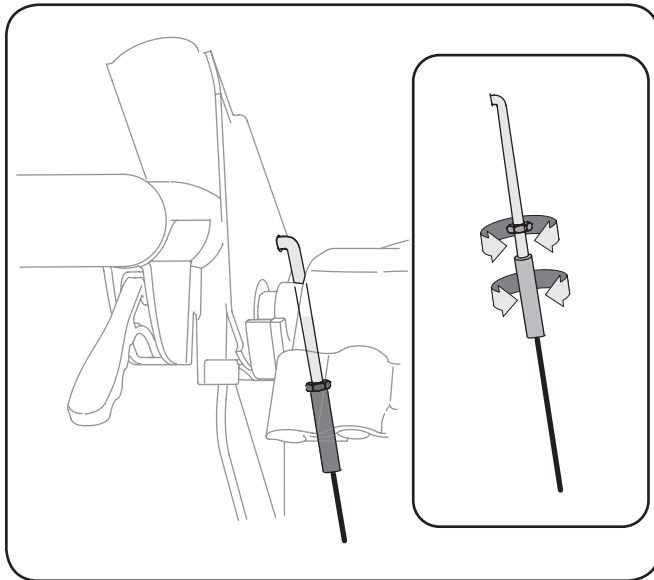

Figure 3-14
8. Thread the ferrule without turning the cable onto the “Z” fitting until there is no slack in the cable. See Figure 3-14. Do not overtighten the cable. Hold the flats on the ferrule with pliers and tighten the jam nut against the ferrule.
10. Retighten the hex jam nut. See Figure 3-14.